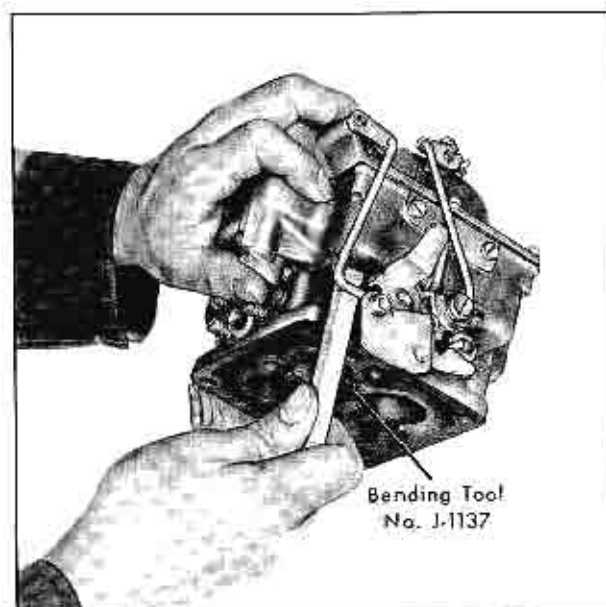
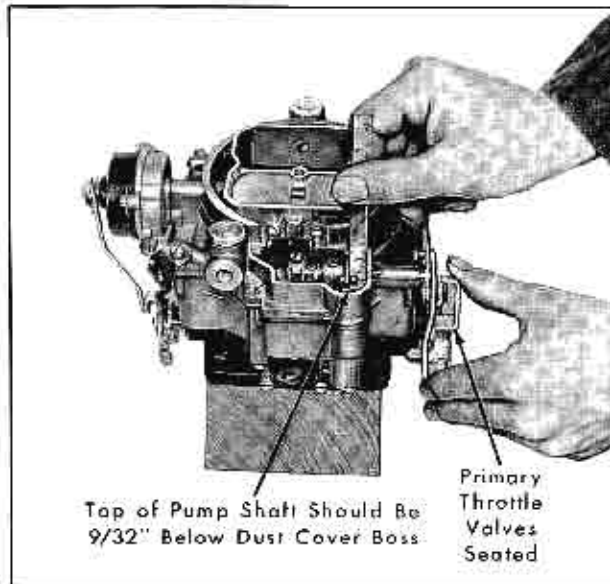
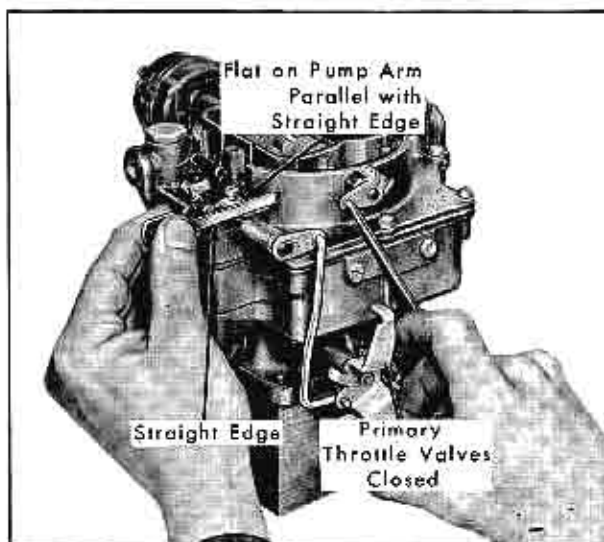

Fig. 12-29 Bending Pump Rod
Fig. 12-30 Accelerator Pump Adjustment
Fig. 12-31 Optional Pump Adjustment
4. Use Bending Tool No. J-1137 as shown in Fig. 12-29 to lengthen or shorten pump rod as required until the top of the pump plunger shaft is  $9/32$ " below the top of the dust cover boss, Fig. 12-30. Optional Adjustment: Hold a straightedge across top of dust cover boss as shown in Fig. 12-31. Adjust length of pump rod as in step 4 above, until the flat on top of the pump arm (under set screw) is